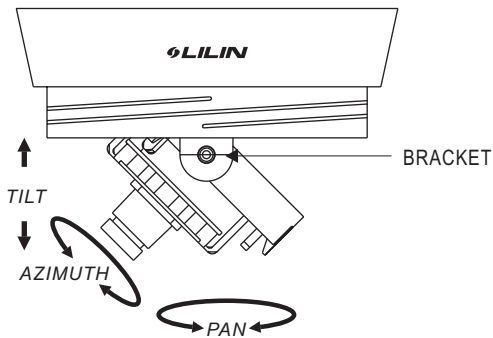
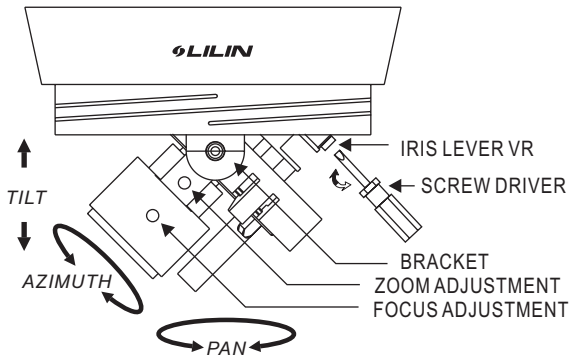

FIG. 2 (PIH-2622/2642)
FIG. 3 (PIH-2622X/2642X)
2. The direction of the lens is adjustable through the adjustable Pan/Tilt brackets and rotatable round bracket for Azimuth. The lens can be adjusted easily by hand without using screw driver. Please refer to FIG.2 (PIH-2622/2642) and FIG.3 (PIH-2622X/2642X).
4. Adjust DC iris level by turning the iris level VR. Please refer to FIG.3.